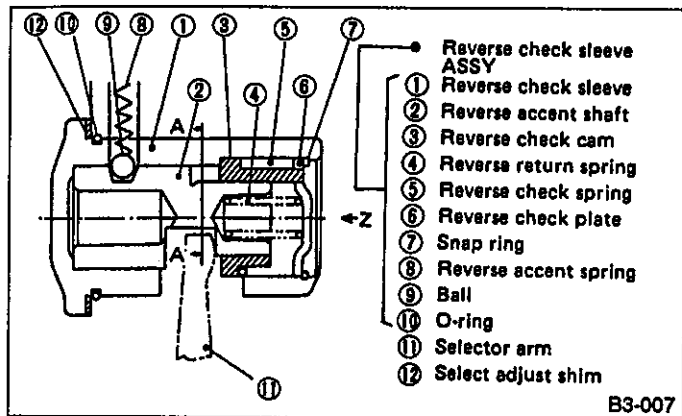
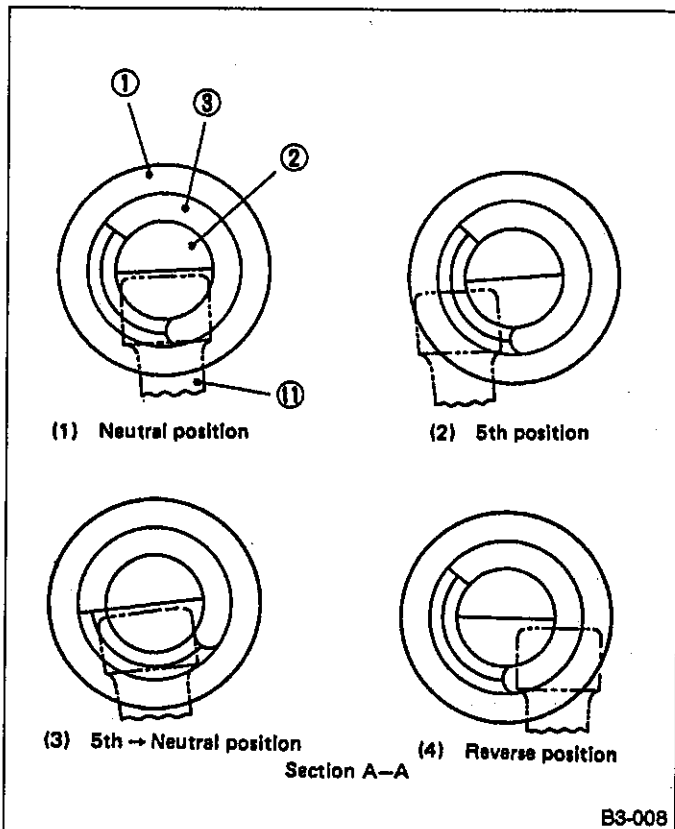
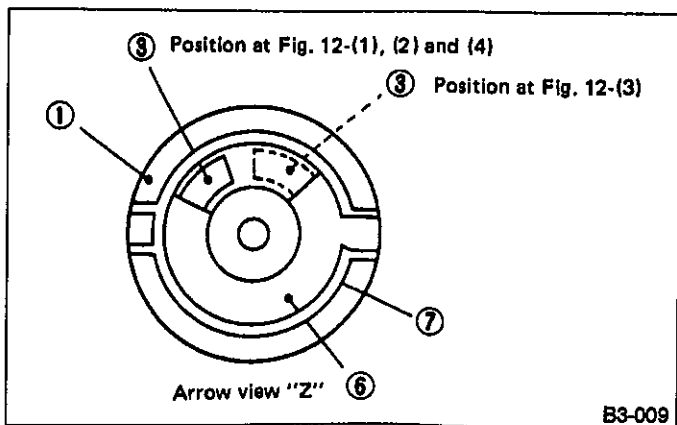

Fig. 11
Fig. 12
Fig. 13
The sleeve ① is bolted to the transmission case. The shaft ② is inserted in the sleeve ①. On the smaller diameter side (in Fig. 11) of this shaft ②, the cam ③ is loosely mounted so that it can rotate, and the sleeve ① holds the cam in place with its stepped part.
As shown in Fig. 11, the sleeve ① and shaft ② have a notch, and the arm ⑪ is placed between the notches. The position of the arm ⑪ shown in Fig. 11 is the neutral position (hereafter referred to as (N) position). The point where the arm stops when moved to the left is the 1st and 2nd position. Opposite this, the point where the arm stops when moved to the right is the 5th and reverse position. Fig. 12 shows the section A-A in Fig. 11, and Fig. 13 the view Z in Fig. 11.
The arm ⑪ pushes the shaft ② and cam ③ simultaneously and moves to the 5th and reverse side, as shown in [Fig. 12-(1)].
As shown in [Fig. 12-(2)], the arm ⑪ moves to the 5th side pushing the shaft ②. When the arm ⑪ pulls out of the cam ③, the cam is returned to the original position by the spring ⑤.
As shown in [Fig. 12-(3)], the arm ⑪ moves to the reverse side pushing the shaft ② and runs against the
cam ③ that has already returned. The cam ③ has, as shown in [Fig. 13], a stopper, which hits against the plate ⑥. Thus, the cam ③ cannot rotate further. Accordingly, the arm ⑪ comes to a stop at a point where it has turned the cam ③ to a certain degree (i.e., (N) position), and the cam ③ is pushed back to the (N) position by the shaft ② (i.e., the spring ④).
From the position shown in [Fig. 12-(1)], the arm ⑪ again moves to the 5th and reverse side. When the shift is made to reverse, the arm ⑪ moves to the reverse position while pushing the shaft ② and cam ③ together.